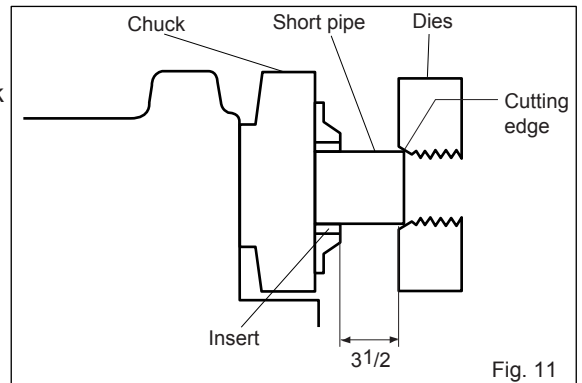

Fig. 11
- Lightly grip the pipe with the chuck, gently engage the dies with the end of the pipe to be threaded, and then tighten the hammer chuck again. (Fig. 11)
- Note: Chuck the pipe with the pipe protruding at least $3\frac{1}{2}$ from the edge of the chuck jaw insert. (Fig. 11)